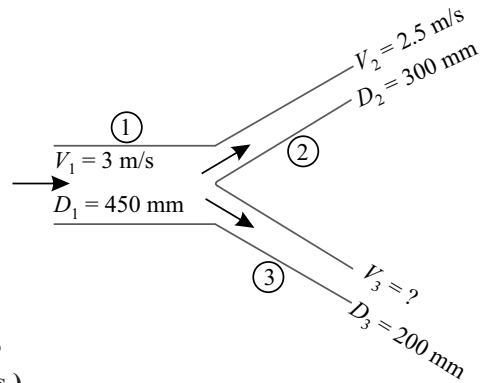

Fig. 5.15
Example 5.12. A pipe (1) 450 mm in diameter branches into two pipes (2 and 3) of diameters 300 mm and 200 mm respectively as shown in Fig. 5.15. If the average velocity in 450 mm diameter pipe is 3 m/s find: